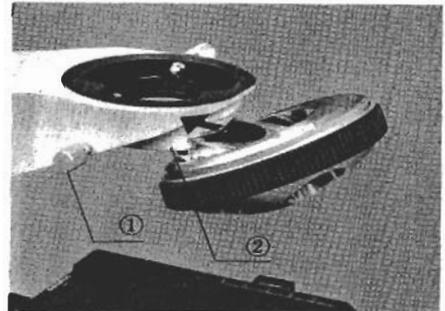

Fig. 3
⑦ Mounting the revolving nosepiece
- 1) Loosen the nosepiece clamping screw ①. (Fig. 3)
- 2) Aligning the nosepiece dovetail slide to the mounting block ②, push in the nosepiece slowly all the way.